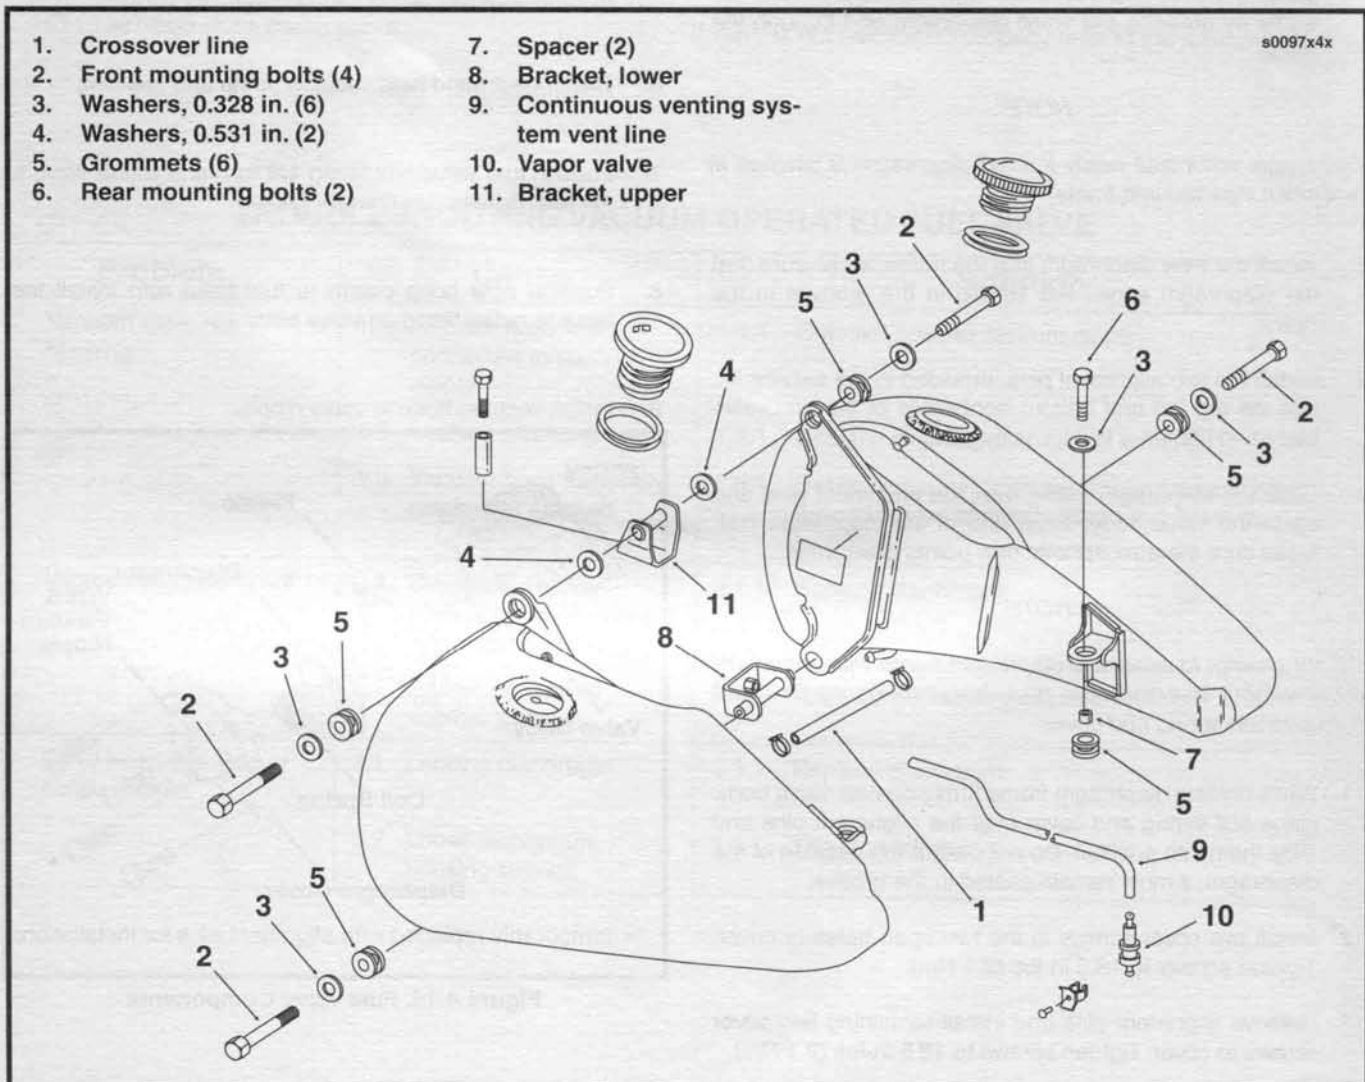

Figure 4-16. Fuel Tank
4. See Figure 4-16. Disconnect crossover line (1).
5. Remove the upper and lower front mounting bolts (2) and washers (3 and 4). Remove grommets (5) if necessary.
6. Remove the two rear mounting bolts (6), spacers (7), and washers (3).